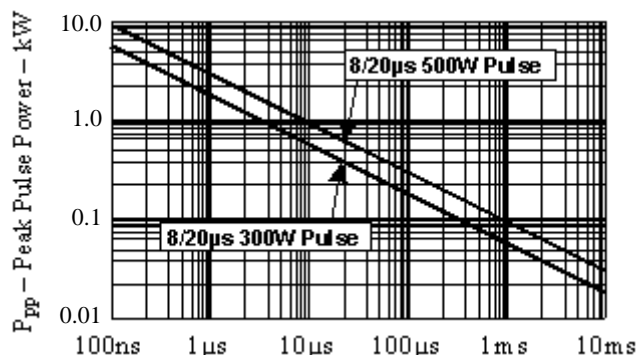

Figure 1
- SMDA Peak Pulse Power: 300 watts (Fig. 1 and 2)
- SMDB Peak Pulse Power: 500 watts (Fig. 1 and 2)